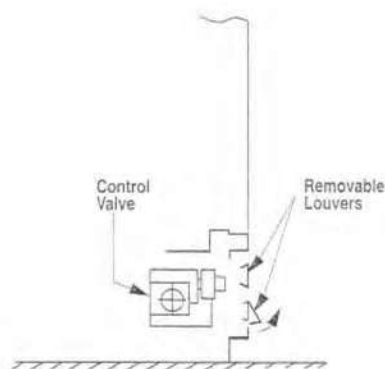

Figure 33
The gas control valve is located under the refractory shelf. If previously installed, remove the two (2) bottom louvers by unsnapping the bottom edge at each end and set aside (Figure 33). The control valve has a 3/8" (10 mm) NPT thread inlet port. Plan the connections accordingly.